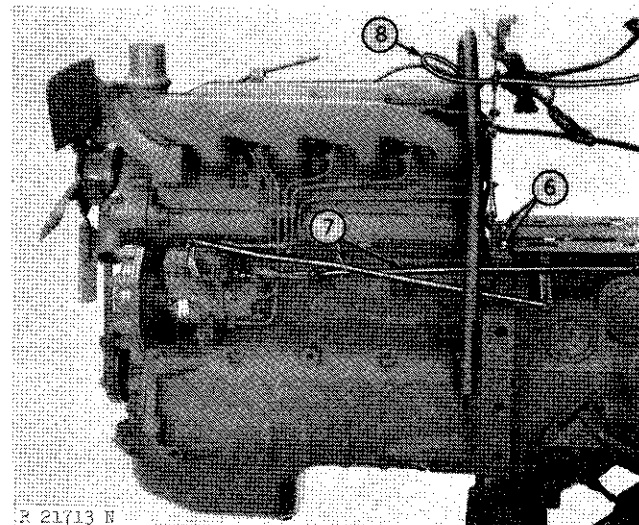

Fig. 11-Left-Hand Removal Procedure
6. Remove cowl-to-flywheel housing cap screws (Fig. 11).